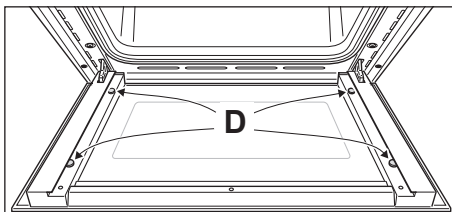

Fig. 6.14a
- Check that the four rubber pads are in place ("D" in fig. 6.14a).